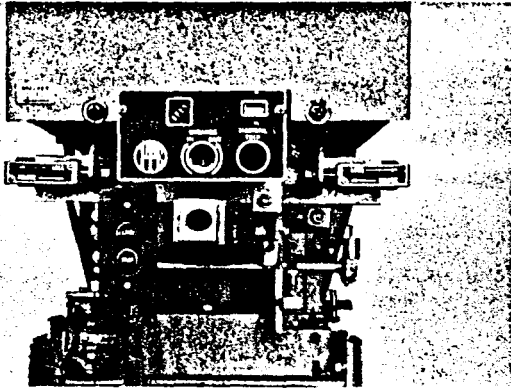
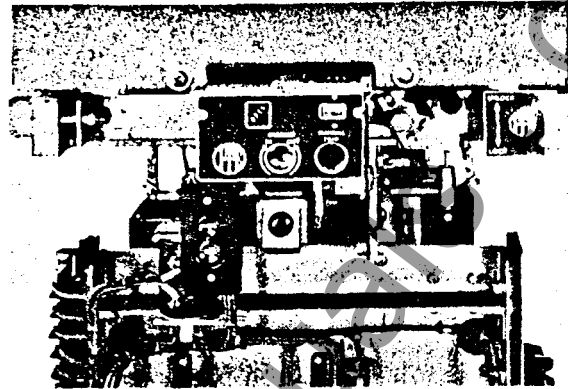
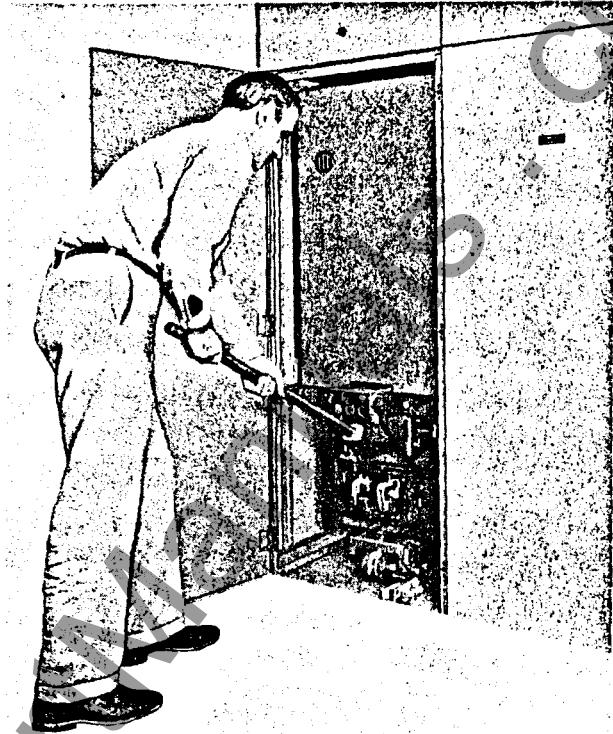

Fig. 12—5HV-75 Racking and Indicator Assembly, "Unlock" Position
Fig. 13—5HV-150 and 5HV-250 Racking and Indicator Assembly, "Unlock" Position
Fig. 15—Manually Closing Circuit Breaker While in Test Position
The locking device is located as shown in Figs. 12 and 13 and has two possible positions. Its purpose is to lock the circuit breaker to the housing when the former is in the "RACKED-OUT" position.
Before inserting each circuit breaker into the housing, the racking bar pointer must be in the "RACKED-OUT" position, and the locking bars must be in the "UNLOCK" position, Figs. 12 and 13. Interlocks are provided which prevent the insertion of the circuit breaker into the housing unless these initial conditions are correct.
With the circuit breaker in the connected "OPERATING" position, it is usual to connect the control circuits so that the breaker can be operated from a control switch mounted on the front of the housing or from a remote point. The breaker cannot be operated from the push button station on its front panel, Figs. 12 and 13. The push button station operates the breaker only in the "TEST" position. Other connections are sometimes made at the request of the user.
If it is desired to test the breaker for operation electrically and manually before putting it into service, it may be done in this position by means of the push button on the front of the breaker, Fig. 12 and by means of the maintenance handle as shown in Fig. 15.
a. Move locking device to "UNLOCK" position as shown in Fig. 12.
If it is desired to test the breaker for operation electrically and manually before putting it into service, it may be done in this position by means of the push button on the front of the breaker, Fig. 13 and by means of the maintenance handle as shown in Fig. 15.
a. Move locking device to "UNLOCK" position as shown in Fig. 13.